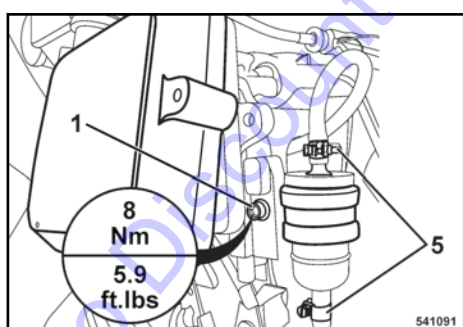

Fig. 63
Retighten the fastening screw (1) ↪ Fig. 63 with a tightening torque of 8 Nm (5.9 ft.lbs).